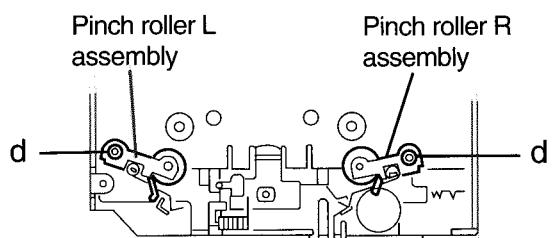

Fig. 5
(See fig 5)
**■ Removing the Pinch Roller Assembly ( See Fig. 5,6 )**